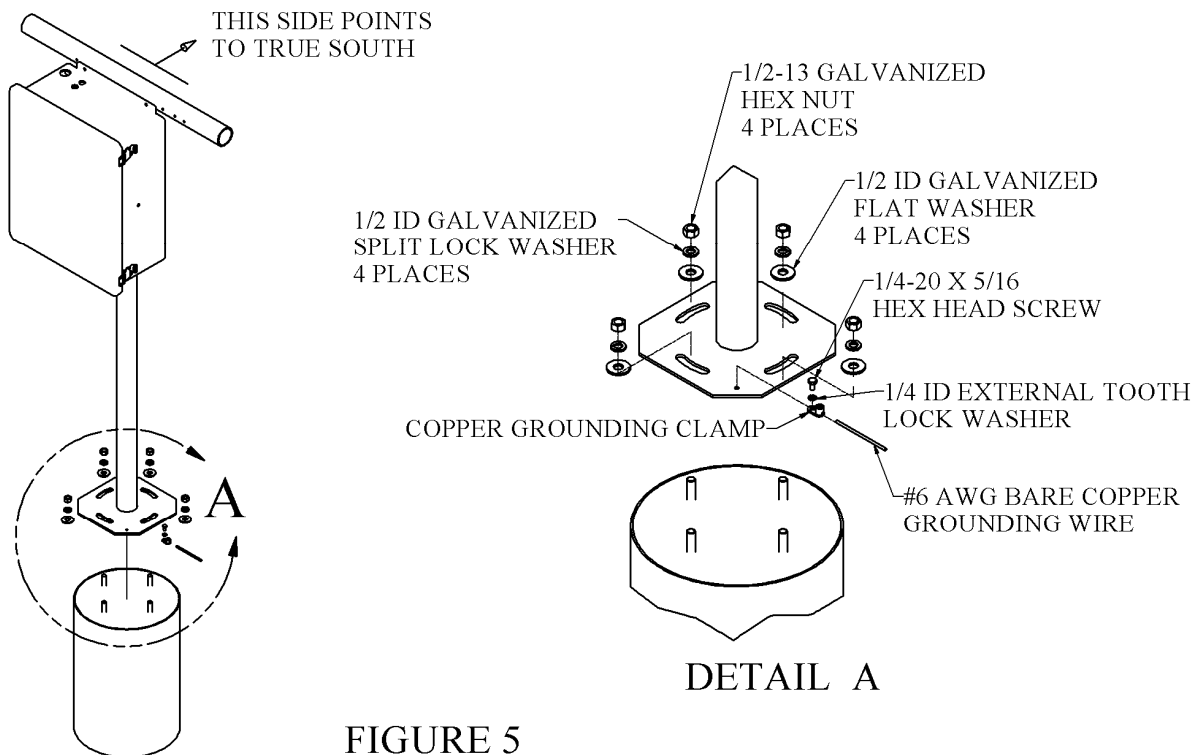

FIGURE 5
11. Connect the Ground Wire to the Brass Ground Rod Clamp as shown in Figure 5 and 6. Connect other end of the #6 Ground Wire to the Post Base Mounting Plate threaded hole as shown in Figure 5.
13. Attach the Post Assembly to the L-Bolts as shown in Figure 5. Do not tighten until the post is oriented to true South. Apply Loctite Threadlocker #2440 to the threads of the L-Bolts.